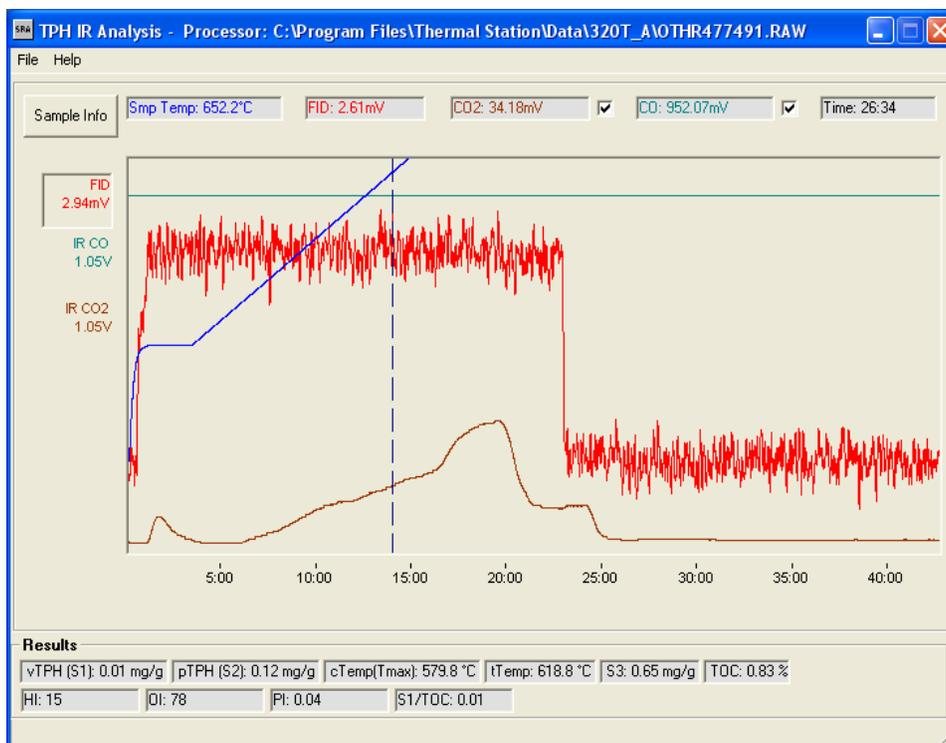

Figure 12. Processor Screen.
1. Double-click the **TStationProcessor** shortcut icon to open the *Processor* screen (**Figure 12**).